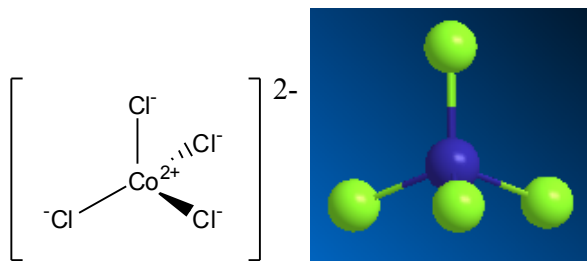

Figure 1: A tetrahedral Co^{2+} coordination complex
Dissolving cobalt (II) chloride in water will form a pink solution of $[\text{Co}(\text{H}_2\text{O})_6]^{2+}$, which consists of a Co^{2+} ion surrounded by six water molecules in an octahedral arrangement. The electronegative oxygen atoms are positioned toward the positively charged Co^{2+} ion (**Figure 2**). The equilibrium can be shifted to favor the blue tetrahedral arrangement (**Figure 1**) by adding the negatively charged Cl^- ion. Though this lab will use alcohols as ligands instead of Cl^- and H_2O , this can be used to explain what happens in solution. When ligands have similar charges, the larger ligands prefer tetrahedral structures rather than octahedral complexes to minimize repulsive forces and steric hindrance. Although both the chloride ion and the oxygen atom (in H_2O) are both attracted to the Co^{2+} ions, the Cl^- has a fully negative charge of one while the oxygen atoms has only a partial negative charge. In addition the Cl^- is “larger” owing to its extra electron. Therefore, the ligand-metal bond is stronger and shorter for Cl^- . The tetrahedral configuration minimizes these effects. In the case of the smaller H_2O , the metal-ligand bond is weak and long. Therefore, the repulsion between water molecules is small regardless of the configuration. As a result, Co^{2+} attracts 6 H_2O molecules to form the octahedral structure. **Figures 1 and 2** show the detailed geometric structures between Co^{2+} and these coordination species: